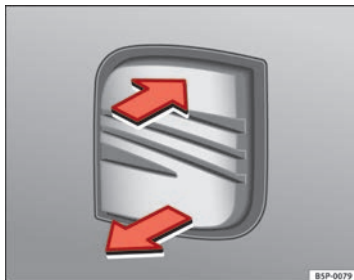

Fig. 64 Rear lid: opening from the outside
- Pull on the release lever and lift the rear lid ⇒ Fig. 64. The rear lid will automatically open.